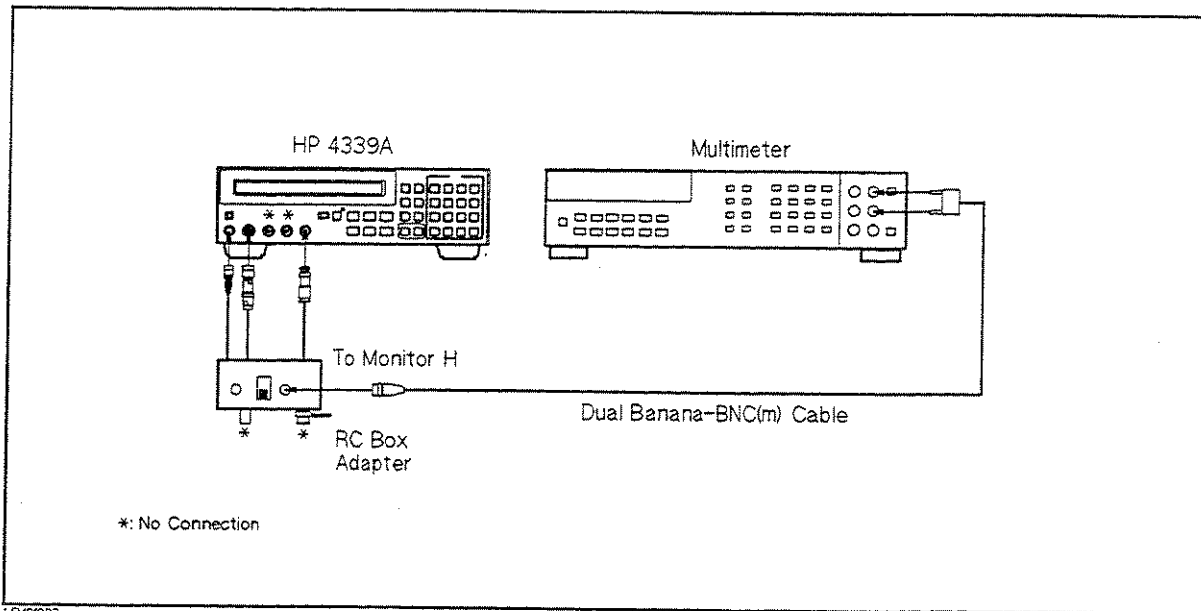

Figure 9-4. Current Measurement Accuracy Test Setup
- Set up the equipment as shown in Figure 9-4.